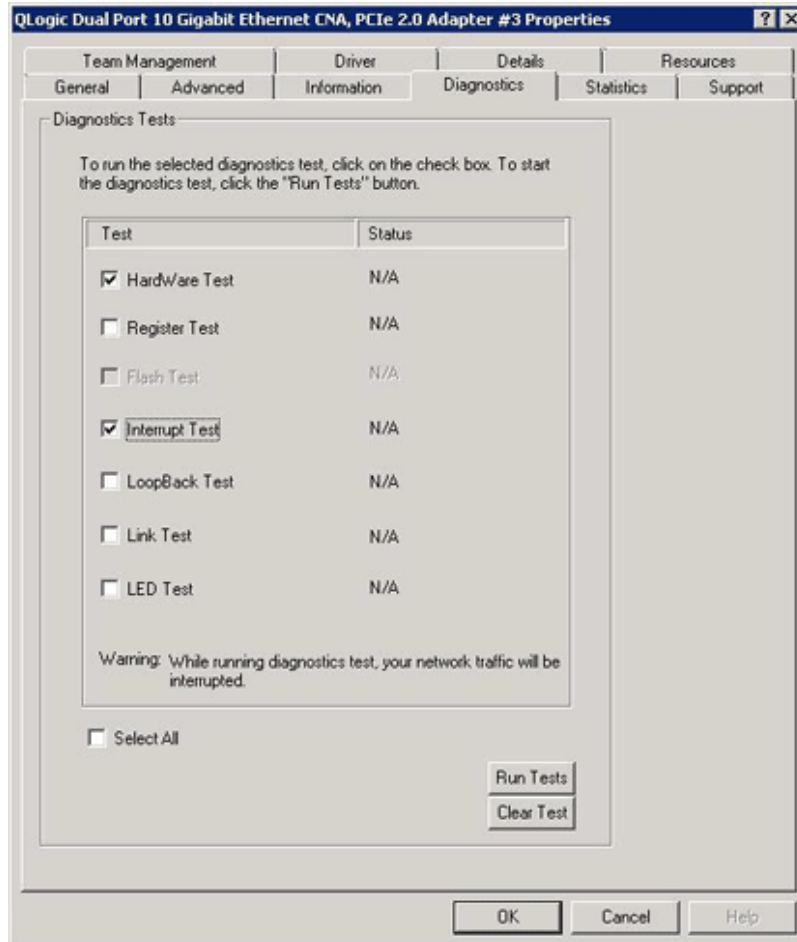

Figure 2-47. Diagnostics Tests on Windows
3. On the adapter properties page, click the **Diagnostics** tab. Figure 2-47 shows the **Diagnostics** page.